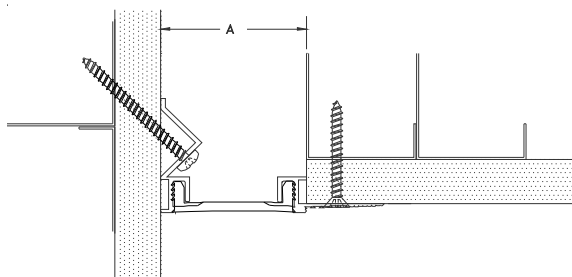

Figure 8
**STEP 10.** Place the joint cover system into its installed position. Using the fasteners provided by the factory, affix the base members to the substrate (see Figure 8). Balco, Inc. recommends using awls to hold the joint cover system in position during anchoring. Ensure that the joint cover system remains plumb, level, straight, and properly aligned.